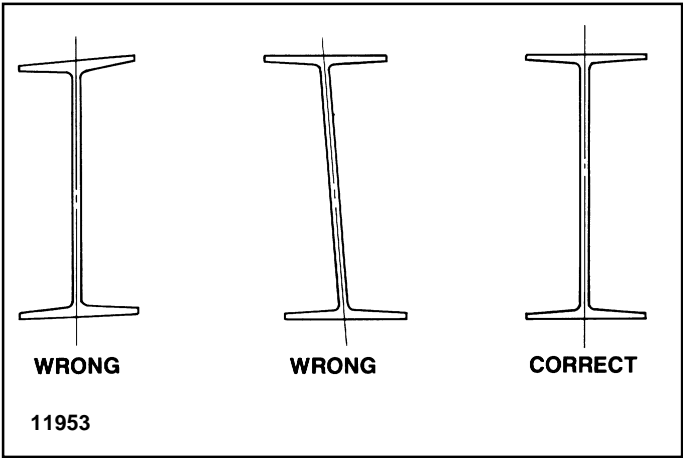

Figure 2. Correct Beam Selection.
1. Bridge Beam. Obtain one length of American Standard Section I-Beam or Wide Flange Beam of the size recommended (see charts on page 1 and 2) for the rated load and span of bridge. The beam selected must be straight with flanges parallel to each other and flanges at 90 degrees to the web. See Figure 2. Where a channel is also required, the channel must be a minimum length of the span minus 4'-0".